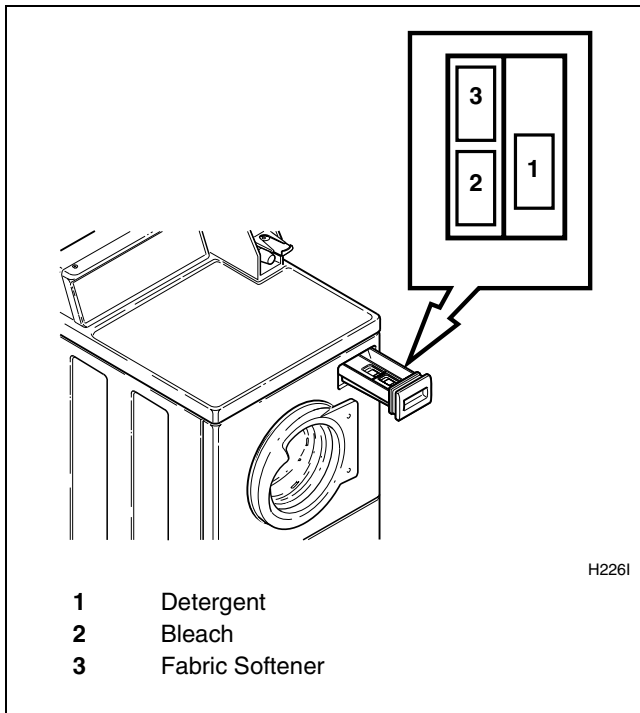

Figure 19
Open dispenser drawer. Measure and add low sudsing detergent (1), bleach (2) and fabric softener (3) to the dispenser drawer (refer to *Figure 19*). Close dispenser drawer.